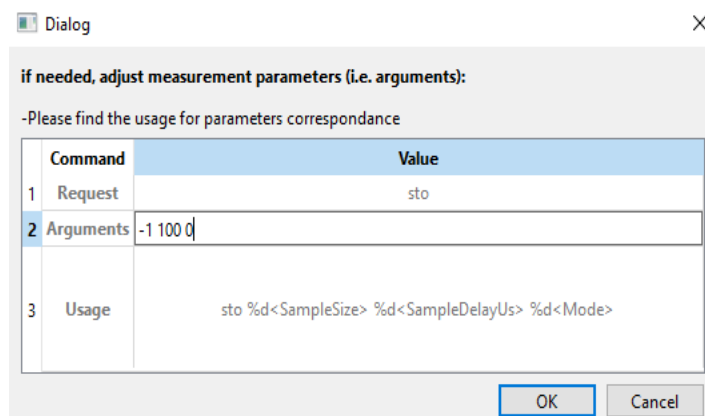

Figure 7: Measurement parameter editor
3. Figure 7 shows the measurement parameter editor *Dialog* window. It offers the option to change the parameters before measurements are triggered, if necessary. It has default parameters (*Arguments*).